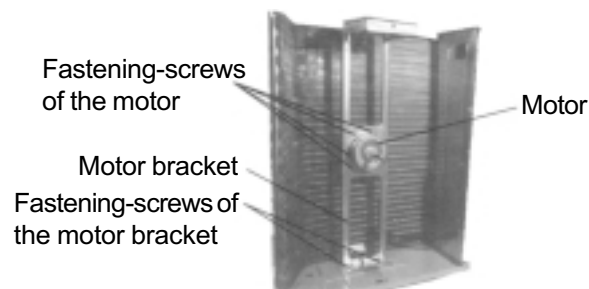

Figure 49
- Unscrew the fastening-screws fixing the motor on the motor bracket. Pull backwards and remove the motor as shown in figure 49.